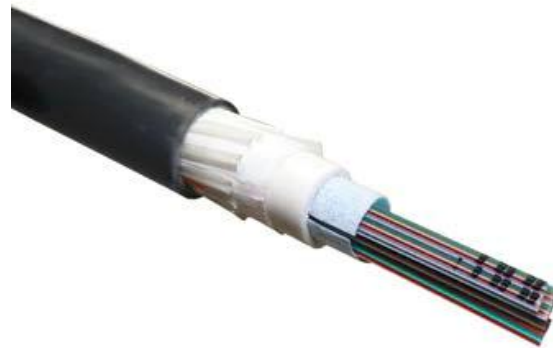

Figure 1 –*AccuRiser* Indoor/Outdoor Ribbon Cable
1.2 *AccuRiser* cable is an all-dielectric, central tube cable (Figure 1). The cable is rated for indoor/outdoor and building applications and is available with 288 – 864 fibers. The *AccuRibbon*® units are comprised of 24 optical fibers that are bonded together in a matrix material. The individual *AccuRibbon* units are stacked together and surrounded by a water-blocking tape and central core tube. The central core tube is surrounded by two layers of helically applied dielectric strength members. Two rip cords are included in the outer layer of strength members to facilitate sheath removal. The cable construction is completed with a LSZH outer jacket making the cable ideal for central office, data center, and building-to-building applications.